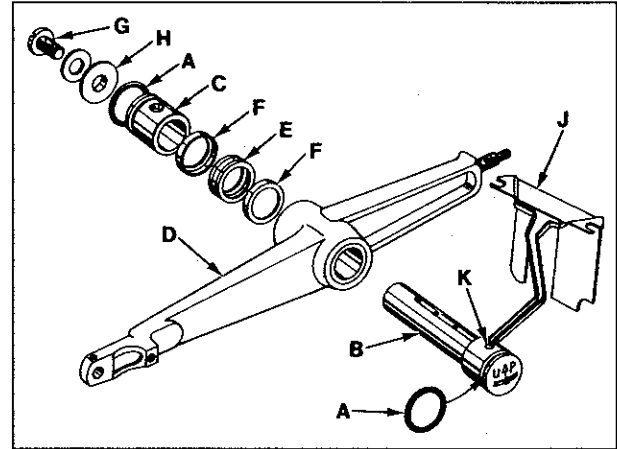

Fig. 15
1. Install "O" rings (A, Fig. 15) onto needle lever stud (B) and thrust collar (C).
2. With needle lever (D) in machine and positioned properly; insert stud (B) through hole in needle lever until its shoulder contacts the needle lever and the word "UP" on stud is in the upright position. While making sure no binding exists in the needle bar link, secure stud (B) with the front set screw in top of machine bed.
3. Install temper load ring (E) and compression cups (F) onto stud (B), then push ring and cups through opening in machine bed.
4. Install thrust collar (C) onto stud (B) being careful not to damage "O" ring. Compress components together by tightening screw (G) until washer (H) bottoms against stud (B). Secure stud (B) in position using the rear set screw in top of bed.
5. To check temper load ring for proper compression, remove screw (G) from stud (B) and loosen rear set screw in top of bed. Thrust collar (C) should spring out .003 - .007 inch (.08 - .18mm). Compress load ring in reverse order, then tighten rear set screw.
6. With indented "UP" on stud (B) in upright position, install bearing oiler (J) so its hook sets in oil supply hole (K) of stud. When hook and stud are secured in their proper positions, the proper amount of oil will be channeled to stud for lubricating needle lever (D).